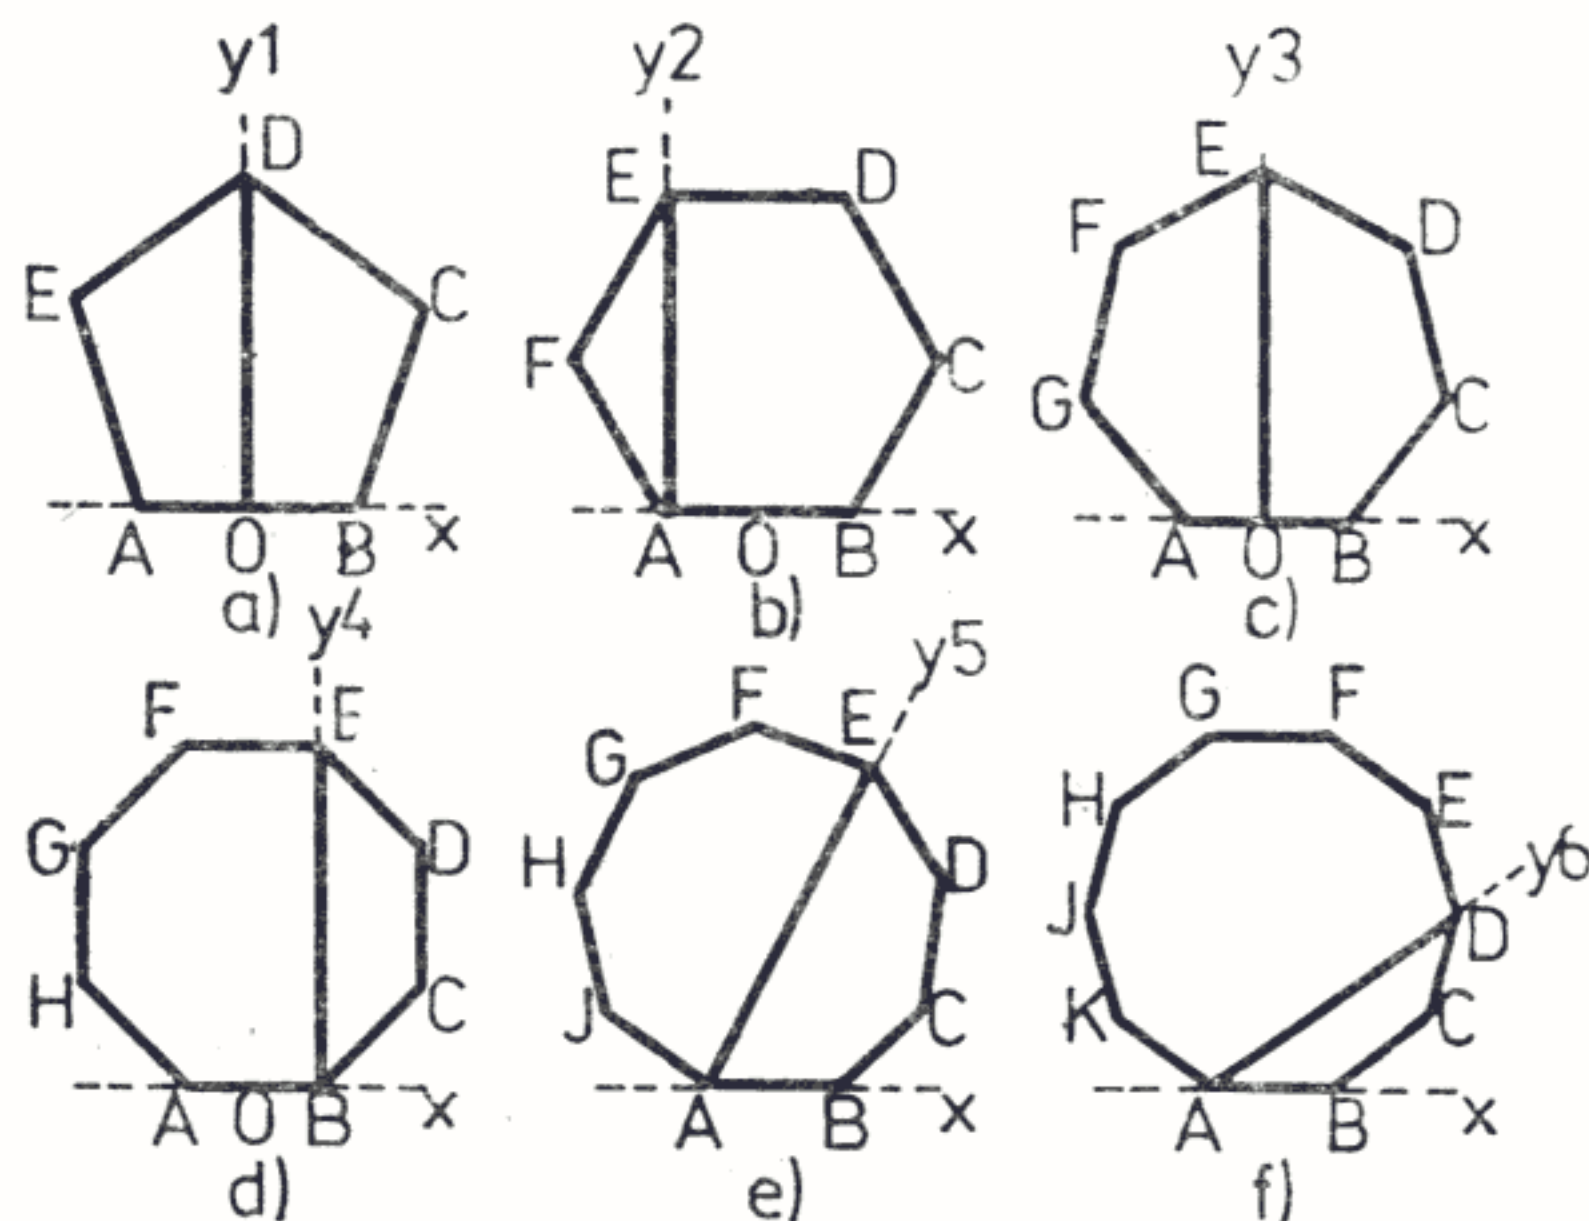

Fig. 19 — Construirea poligoanelor regulate.
- a) $\sphericalangle DOB = 90^\circ$ la pentagon (fig. 19, a);
- b) $\sphericalangle EAB = 90^\circ$ la hexagon (fig. 19, b);
- c) $\sphericalangle EOB = 90^\circ$ la septagon (fig. 19, c);
- d) $\sphericalangle EBA = 90^\circ$ la octogon (fig. 19, d);
- e) $\sphericalangle EAB = 60^\circ$ la nonagon (fig. 19, e);
- f) $\sphericalangle DAB = 36^\circ$ la decagon (fig. 19, f).